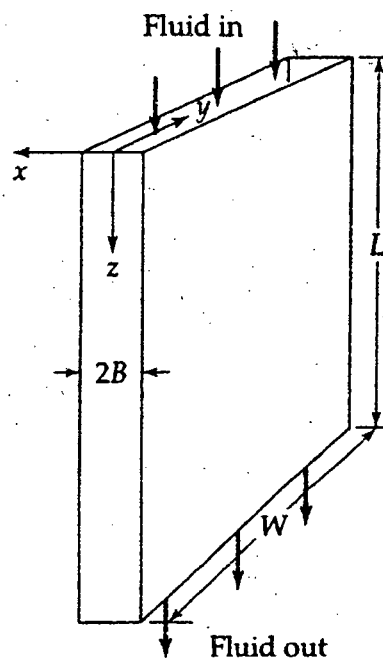

fig. Q-1(a)
1. (a) A Newtonian fluid is in laminar flow in a narrow slit formed by two parallel walls at distance $2B$ apart as shown in Fig. Q. 1(a). It is understood that $B \ll W$, so that "edge effects" are unimportant. Make a differential momentum balance, and obtain the following expressions for the momentum-flux and velocity distributions: